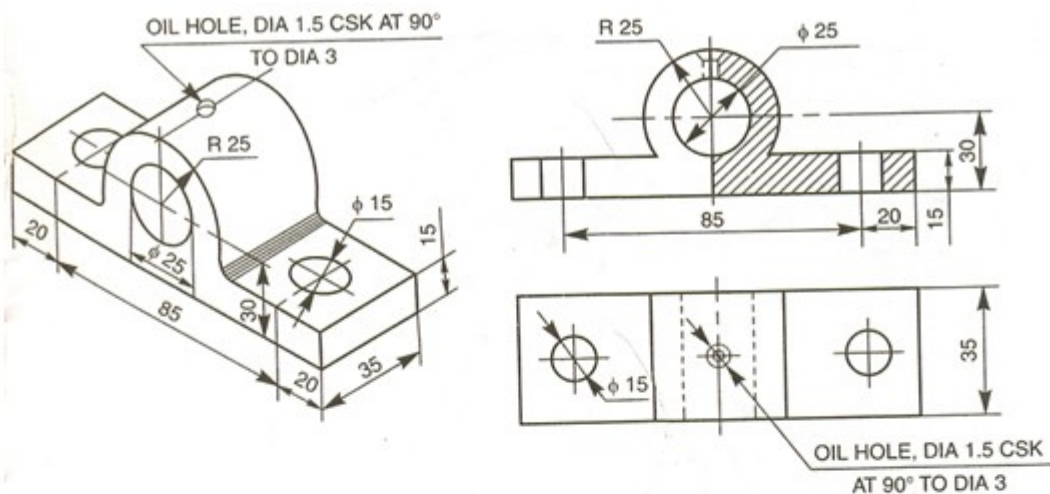

Fig.13.1.1 Solid journal bearing
- This simplest form of journal bearing is made of cast-iron and consist a cylindrical block with a rectangular base [fig.13.1.1].